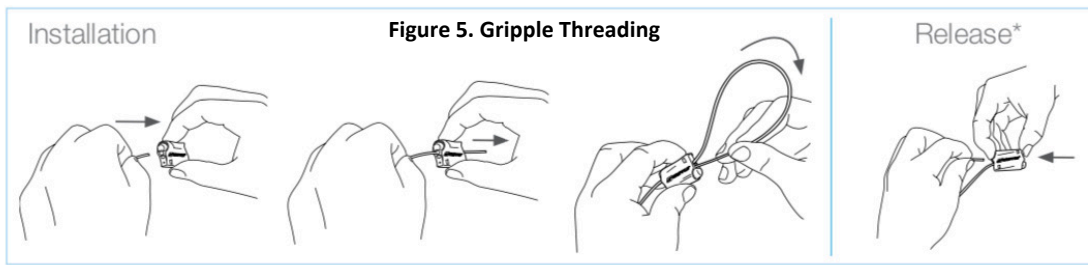

Figure 6. 50 Ohm Terminator
2. Attach the 50 Ohm terminator as shown in Figure 6 on page 2. This component will protect the RF circuitry from static damage.